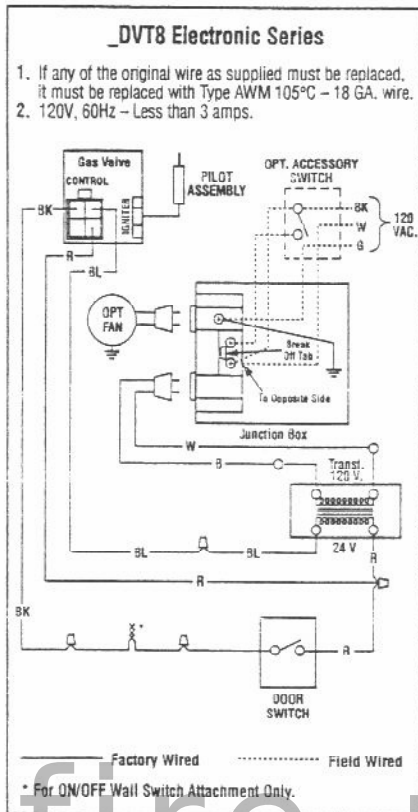
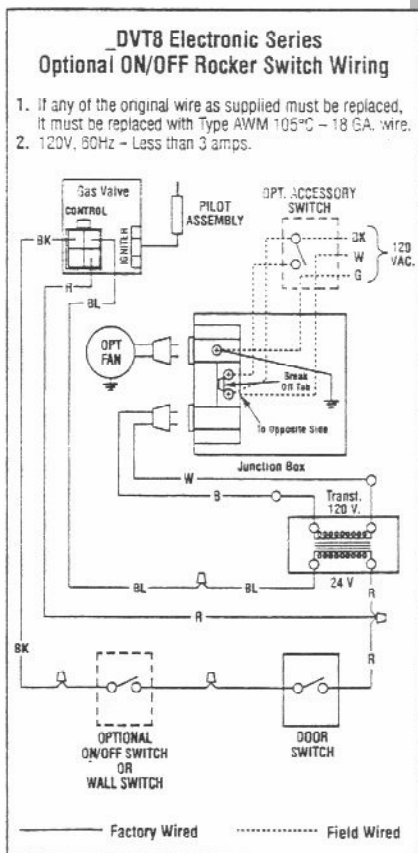

Figure 34
Figure 35
Step 7. Field Wiring Electronic Appliances – Regardless of whether an optional forced air blower kit (Figure 34) is to be installed now or sometime in the future, the appliance must be connected to the main power supply. To install, route a 3-wire 120V 60Hz power supply to the appliance junction box (located in the lower left side of the appliance) and ground. Also, at this time you may wish to locate and install an optional low voltage (24V) wall switch (Figure 35) in the desired location, connect the low voltage wire to this switch. For blower wiring, refer to the installation instructions provided with the forced air kit and the following paragraphs.
**Note:** The optional rocker switch is mounted to the appliance and wired in the same way as the remote wall switch (Figure 35).